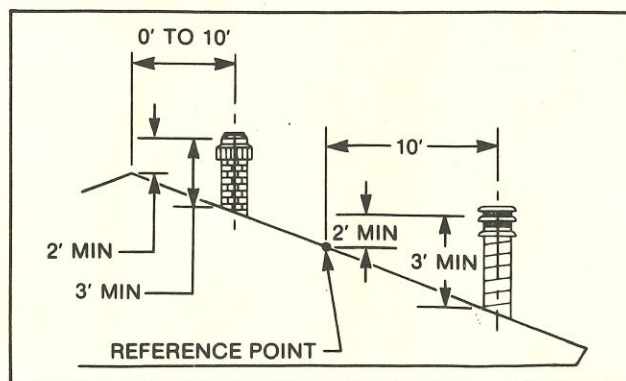

Fig. 14. Ten foot rule for chimney height.
Major U.S. building codes specify minimum chimney height above the roof top. These specifications are summarized in the *Ten Foot Rule*. (See Fig. 14). The key points of this rule are:
2. If a horizontal distance from the center of the chimney to the peak of the roof is more than 10 feet, a chimney height reference point is established that is on the surface of the roof a distance of 10 feet from the center of the chimney in a horizontal plane. (See Fig. 14). The top of the chimney must be at least 2 feet above this reference point, but never less than 3 feet in height above the highest point where it passes through the roof.